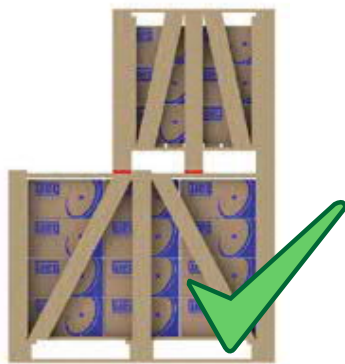
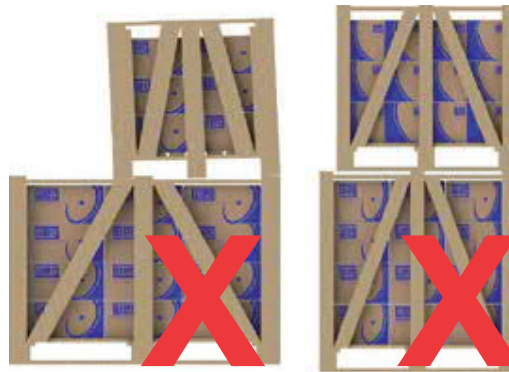

Figure 5.3 - Correct stacking
Figure 5.4 - Incorrect stacking
3) The feet of the crates above should always be supported by suitable wood battens (Figure 5.3) and never stand on the steel tape or without support (Figure 5.4);